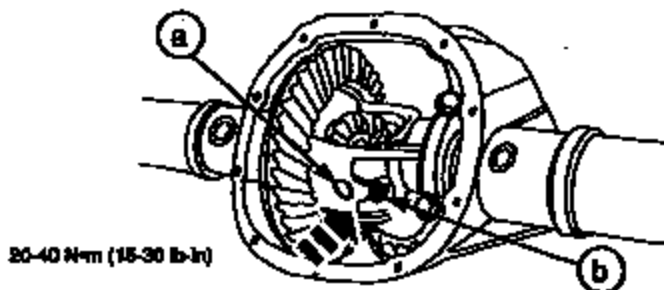

FIGURE 21
5. Install the differential pinion shaft (refer to Figure 21).